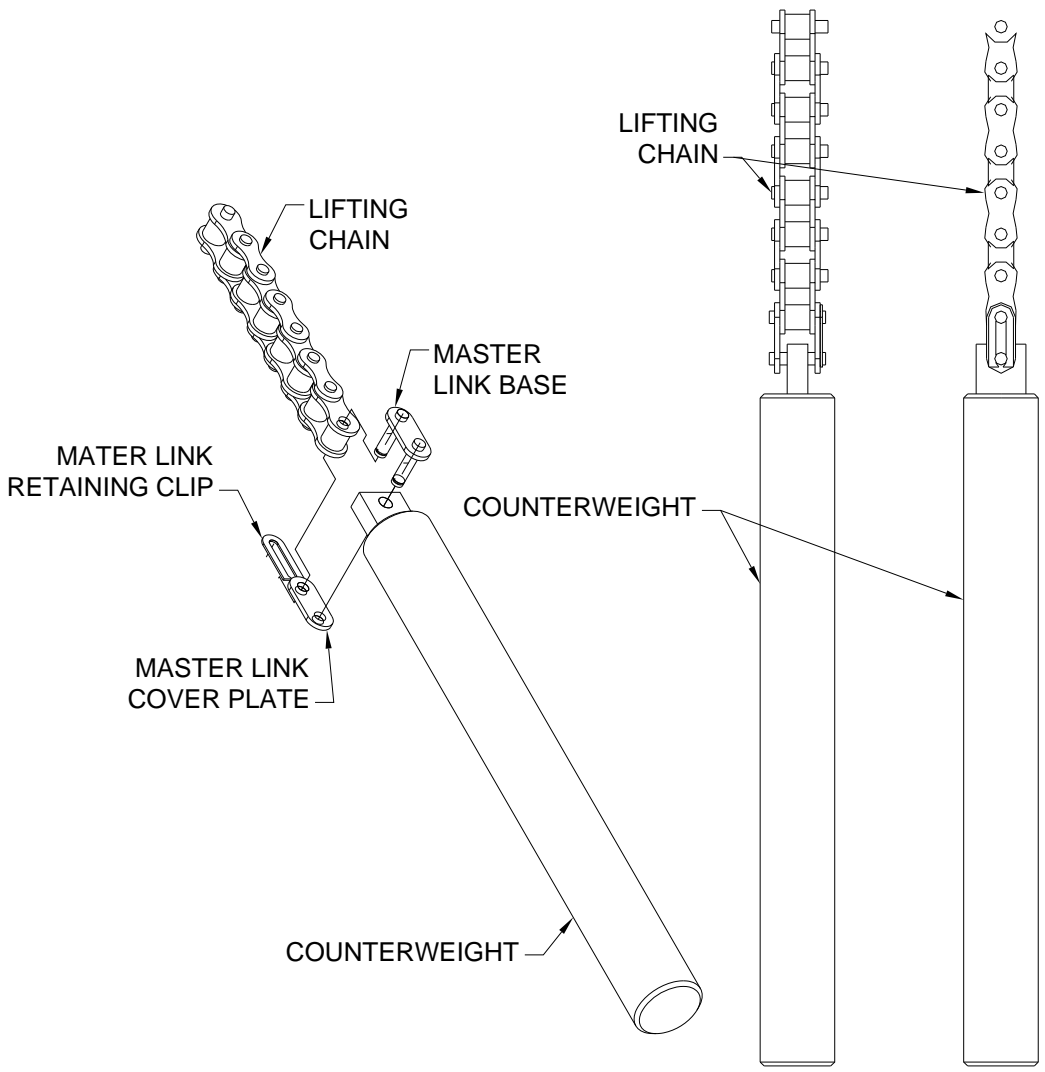

Figure 28 Counterweight Connection
7. Using the hardware provided, attach a counterweight to the end of each chain as shown in **Figure 28**.